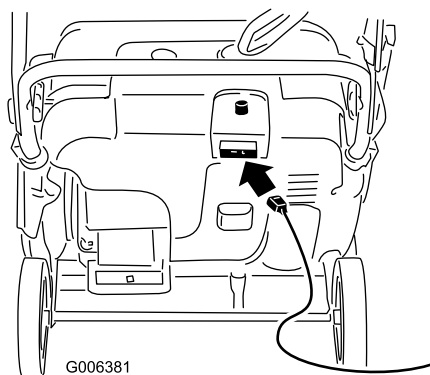
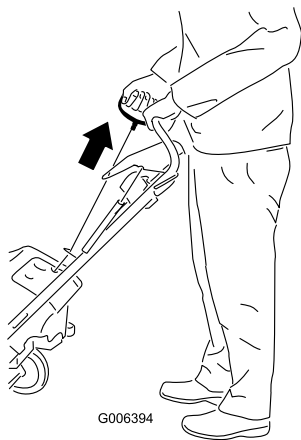

Figure 14
Figure 15
4. Connect an extension cord to a power source and the snowthrower, and push the electric-start button (model 38586 only) (Figure 14), or pull the recoil start handle (Figure 15).